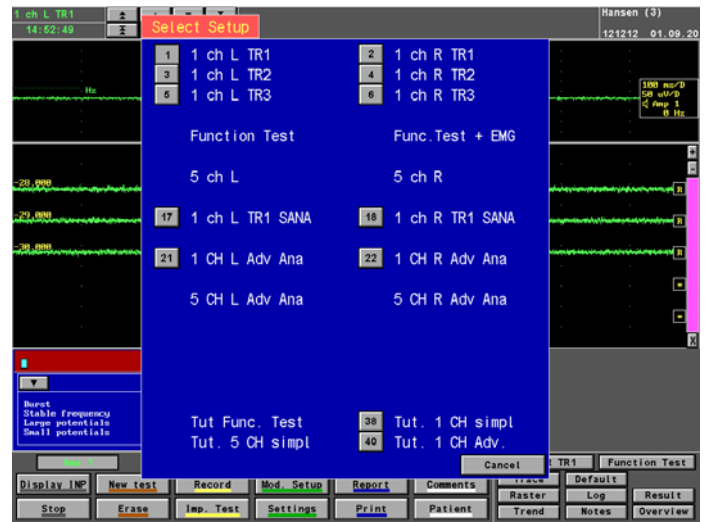

Figure 38 The Select Setup Menu
- Click **Convert**, and the Select Setup Menu appears providing a list of the convertible tests, see Figure 38 below: